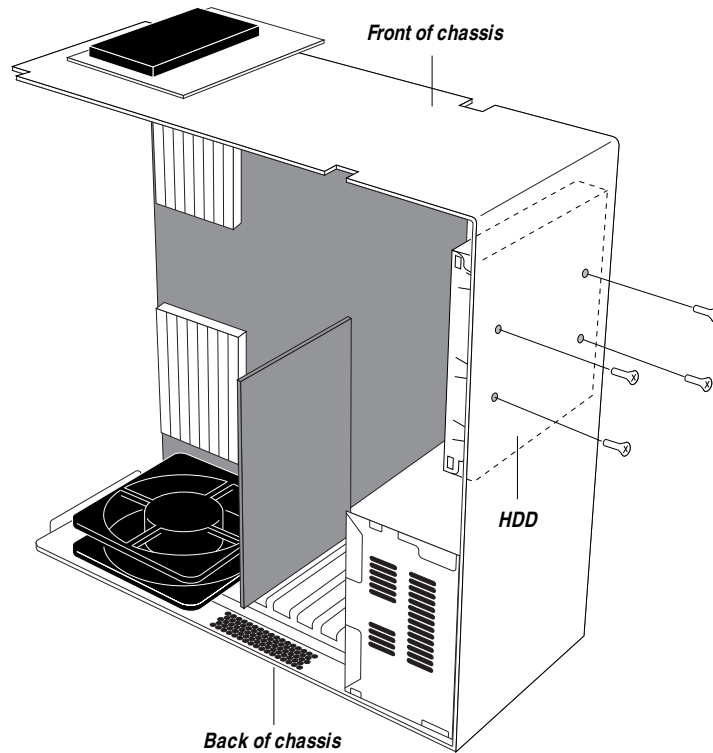

Figure 5-30 Disk drive mounting screw holes on chassis exterior
6. ***On the exterior of the chassis, locate the four mounting screws that attach the HDD to the chassis (see Figure 5-30 on page 5-44).***
The four mounting screws are located on the bottom exterior of the chassis. To access the four screws, position the Fiery XJ BP100 on its back panel (see Figure 5-30).